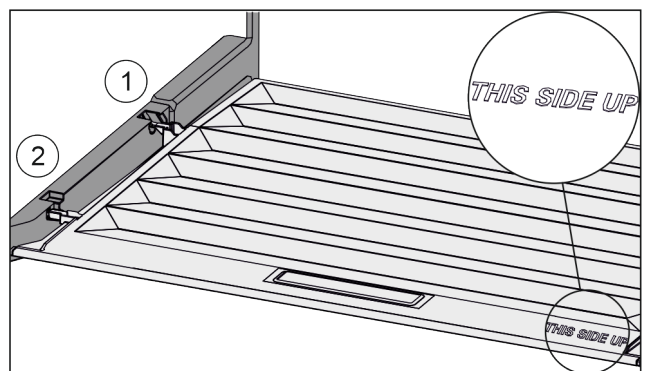

Fig. 95
- ▶ Insert the lip of the cover over the opening of the rear bracket Fig. 95 (1) and click into place Fig. 95 (2).